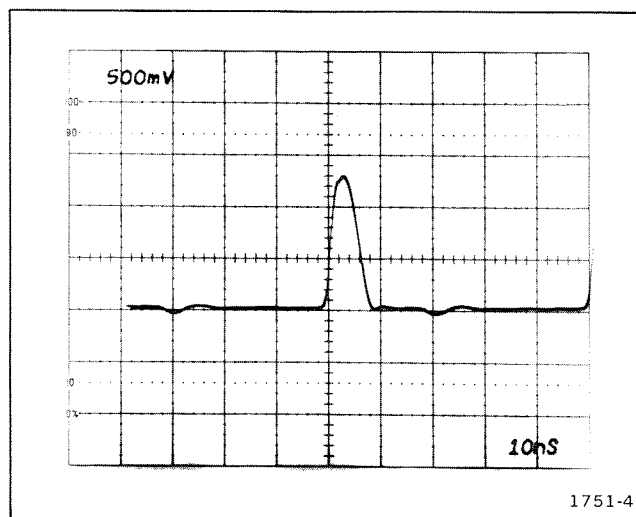

Figure 4-4. Fast delay time accuracy.
- e. Adjust Amplifier plug-in unit and 7B92A POSITION controls to locate leading edge of time mark at intersection of horizontal and vertical center graticule lines. (See Figure 4-4.)